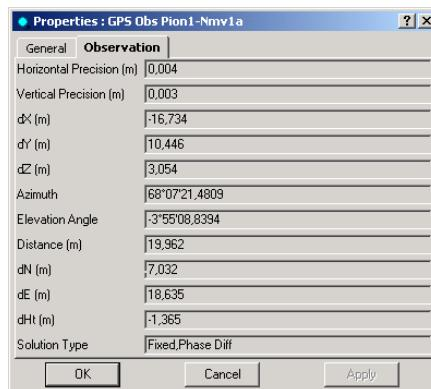

Figure E-32. Horizontal and Vertical Accuracies
1. To display the vector components and their errors, right-click the vector and click **Properties**. The horizontal and vertical precisions and components in XYZ and NEH coordinate systems of the vector will be displayed in the *Observation* tab of the **Properties** dialog box (Figure E-32).